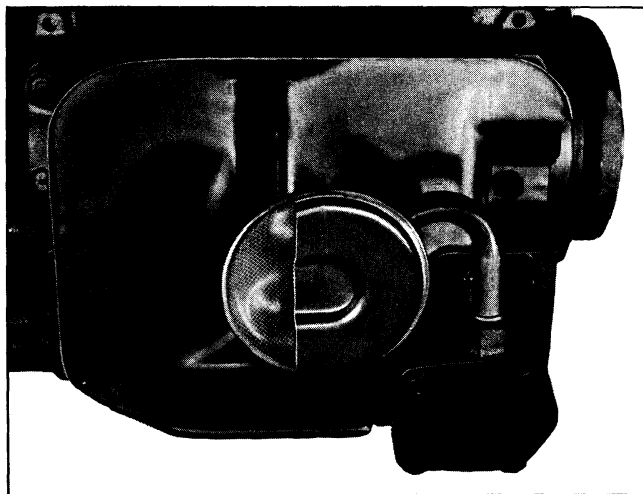

Fig. 6-55 Oil Pump Screen Assembly
3. Remove oil baffle and cylinder block to oil baffle tube (Fig. 6-55).